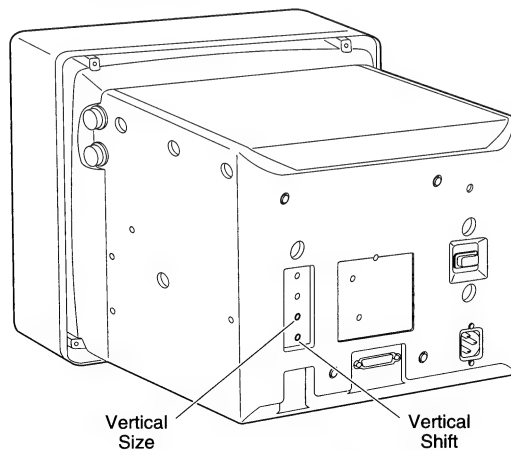

Figure 7 Vertical Shift and Size Controls
6. FIGURE 7. Adjust the Vertical Shift control until the raster is centered on the screen.
7. FIGURE 7. Adjust the Vertical Size control until the raster is 11 5/16 inches high.